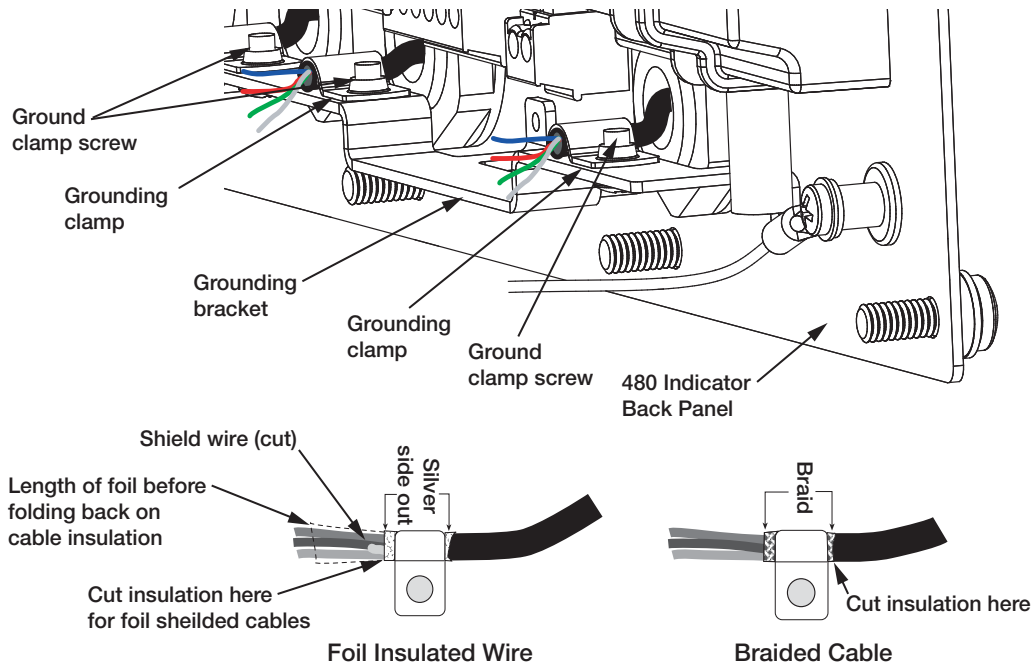

Figure 2-2. Grounding Clamp Attachment for Foil-Shielded and Braided Cabling
- For cables with foil shielding, strip insulation and foil from the cable 1/2" (15 mm) past the grounding clamp (see Figure 2-2). Fold the foil shield back on the cable where the cable passes through the clamp. Ensure silver (conductive) side of foil is turned outward for contact with the grounding clamp.
- For cables with braided shielding, strip cable insulation and braided shield from a point just past the grounding clamp. Strip another 1/2" (15 mm) of insulation to *only* expose the braid where the cable passes through the clamp (see Figure 2-2).
- Route stripped cables through cord grips and grounding clamps. Ensure shields contact grounding clamps as shown in Figure 2-2. Tighten ground clamp screws.